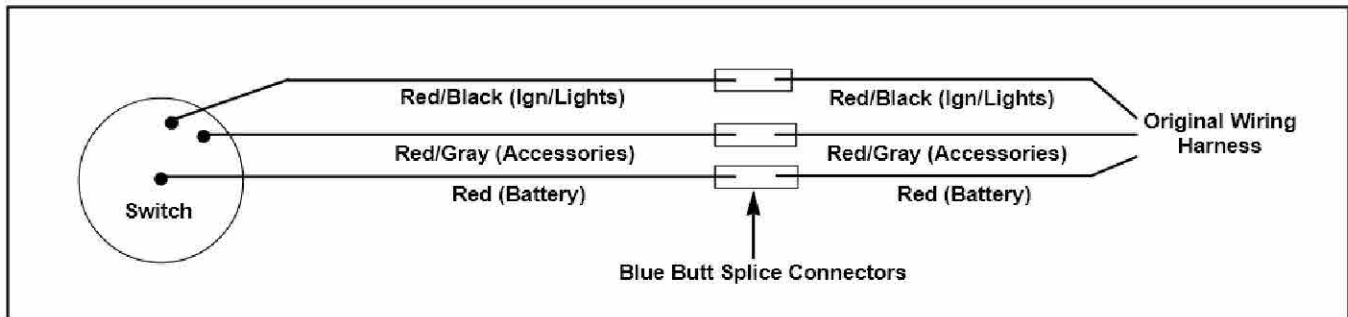

Figure 4. 1994 and Later XL and FXR Models; 1995 and Later FXD Models
- See Figure 4. Switch must be spliced into existing wiring harness approximately 3 in. from original switch body using three small butt splice connectors (blue). Refer to Installing Wire Splicing section at end of this instruction sheet.
1. See Appropriate Wiring Diagram, Figures 4, 5, or 6. Cut wire approximately 3 in. from old switch and approximately 3 in. from new switch.